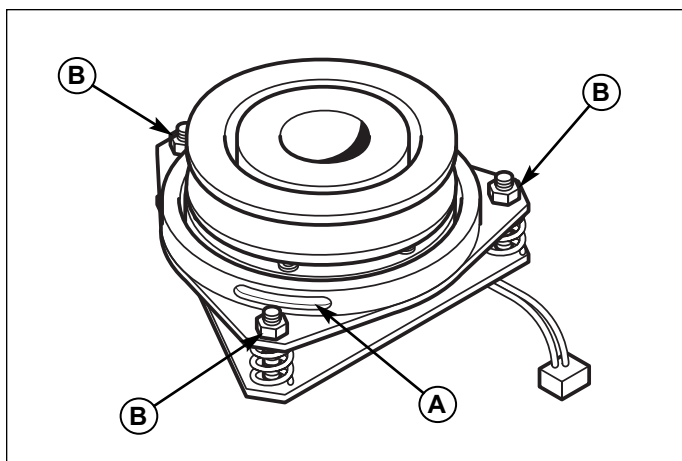

Figure 19. PTO Clutch Adjustment
2. See Figure 19. Note the position of the 3 adjustment windows (A) in the side of the brake plate and the nylock adjustment nuts (B).
4. Alternately tighten the adjustment nuts (B, Figure 19) until the rotor face and armature face just contacts the gauge.